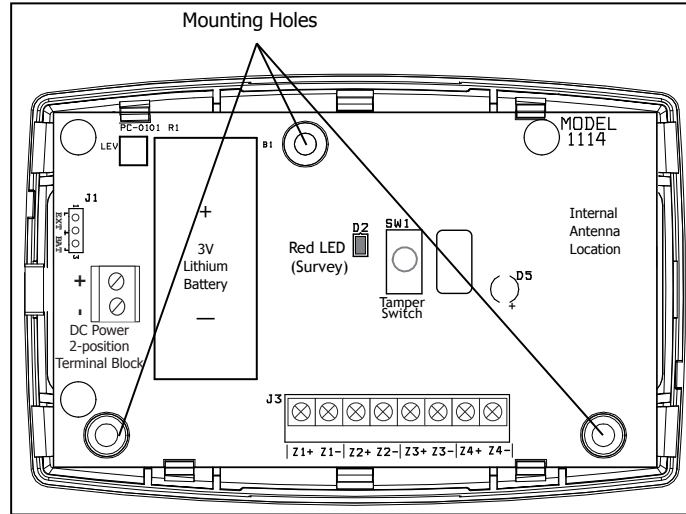

Figure 2: 1114 Four-Zone Expander PCB
The 1114 provides a survey capability to allow one person to confirm communication with the receiver while the cover is removed. The 1114 PCB Red Survey LED (See Figure 2) turns on whenever data is sent to the receiver then immediately turns off when the receiver acknowledgement is received. Pressing the tamper switch is a convenient way to send data to the receiver to confirm operation. When the 1114 does not receive an acknowledgement from the receiver the survey LED remains on for about 8 seconds to let you know communication is not established. Communication is also faulty when the LED flashes multiple times in quick succession. Relocate the 1114 or receiver until the LED immediately turns off indicating the 1114 and receiver are communicating properly. Proper communication between the 1114 and receiver is verified when for each press or release of the tamper switch, the LED blinks immediately on and immediately off.
Mount the 1114 on a flat surface such as a wall or single-gang box. When using the optional Model 376L plug-in power supply, mount the 1114 near a wall outlet. See Figure 2 for mounting hole locations.
4. Place the 3V Lithium battery in the holder and press into place. See Figure 2 for Battery location.